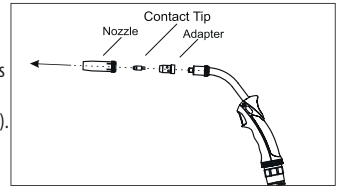

Figure 4: Removing the Nozzle, the Contact Tip and the Adaptor
- To change the liner; remove the nozzle, the contact tip and the adaptor respectively (Figure 4).